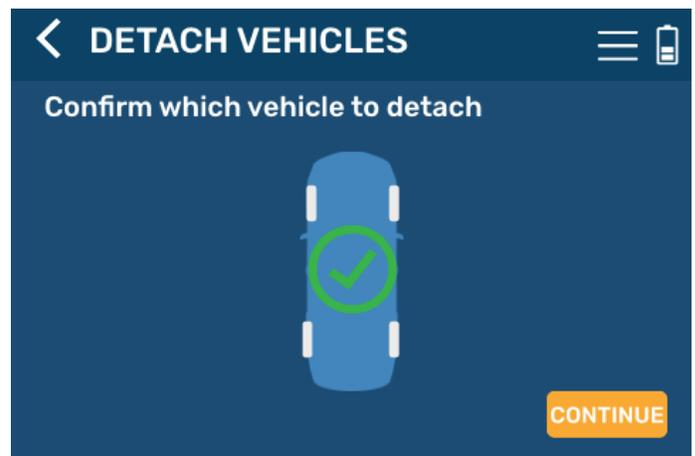

Fig.26
3. Confirm which vehicle to detach and tap **CONTINUE** (Fig.26).